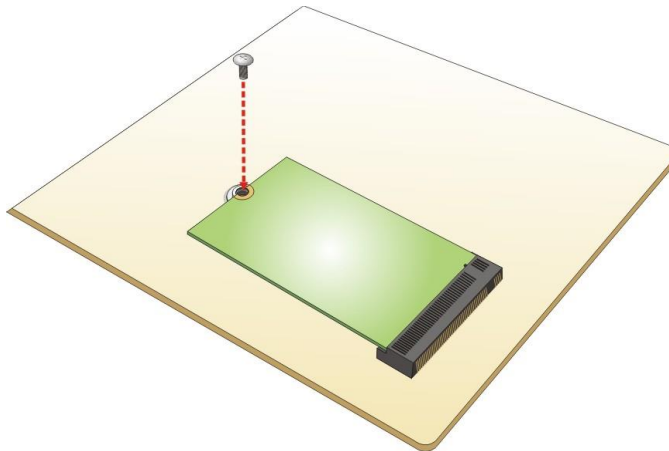

Figure 4-3: Securing the M.2 Module
- Step 4:** Secure the M.2 module with the previously removed retention screw (**Figure 4-3**).